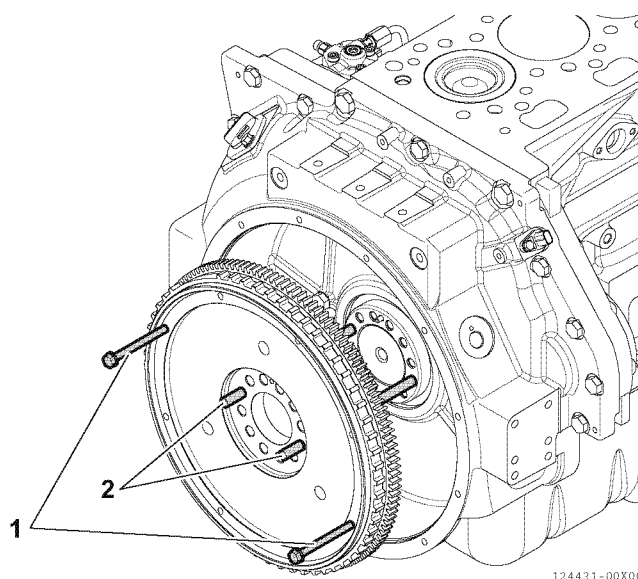

Fig.03-3
5. Attach 2 bolts (1, Fig.03-3) to the flywheel as a handle, and while turning along the guide bar (2, Fig.03-3), remove the flywheel. Remove the guide bar.